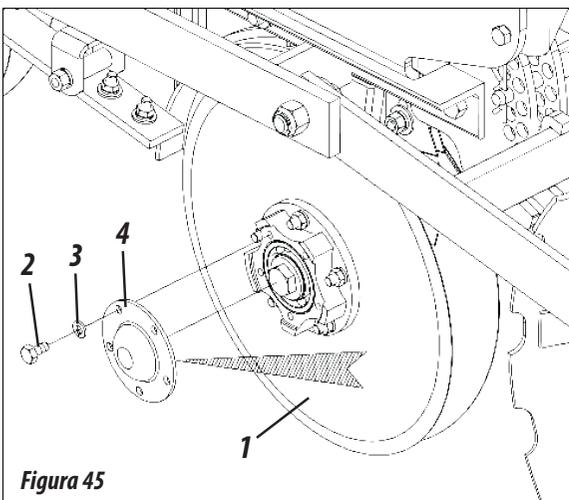

Figura 45
**LUBRICAR CADA 200 HORAS DE TRABAJO ( FIGURA 45 )**